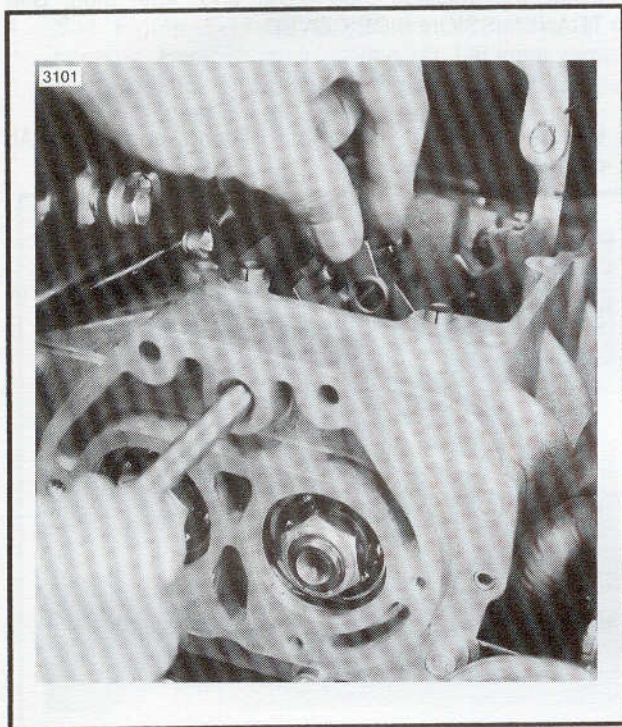

Figure 7-7. Fork & Fork Shaft Removal
2. See Figure 7-7. Remove the transmission side cover. See TRANSMISSION SIDE COVER.